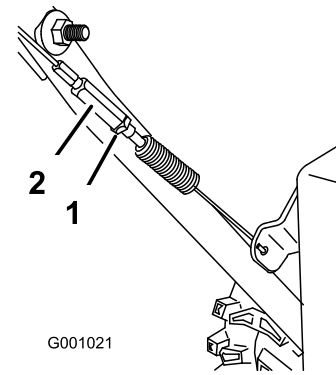

Figure 41
3. Tighten the jam nut (Figure 41).